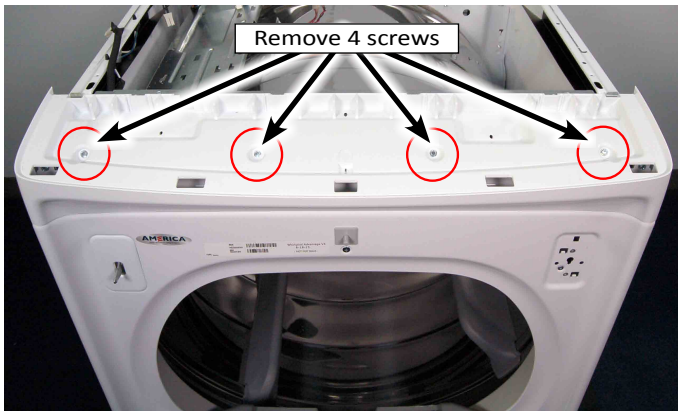

Figure 1
3. Using a 1/4" nut driver, remove the four (4) hex-head screws securing the Console Shell Assembly to the front console bracket (locations circled in Figure 1). Remove console shell from dryer.